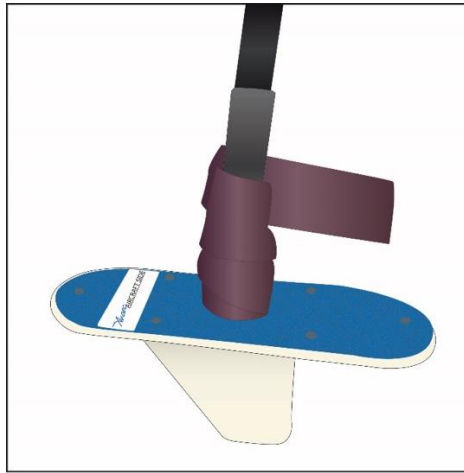

Figure 3
- 2) Wrap the StretchSeal® PRS® clockwise around the mated connector with a 50% overlap while stretching the PRS® 25% to 50% to ensure a tight wrap. A tight wrap is necessary to ensure a proper seal. (Figure 3)